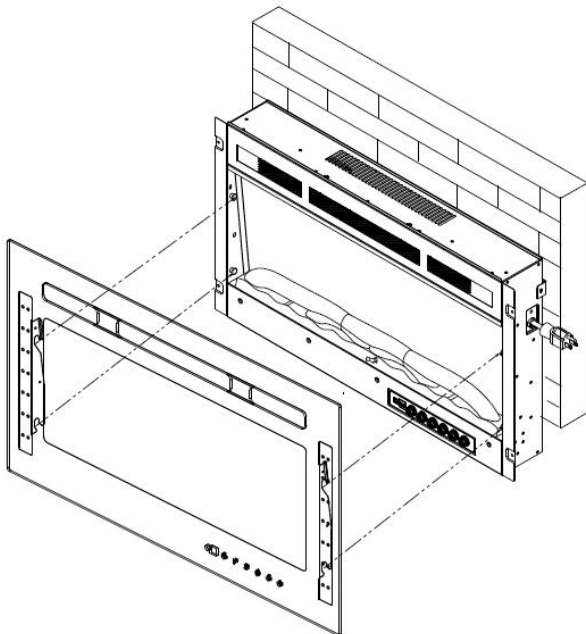

Fig.7
H. Place the front panel lock the appliance. Fig.7